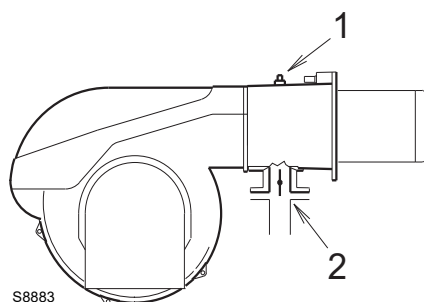

Fig. 26
Gas pressure measured at the test point 1)(Fig. 26), with:
Pressure loss at gas butterfly valve 2)(Fig. 26) with maximum opening: 90°.
- Subtract the combustion chamber pressure from the gas pressure measured at test point 1)(Fig. 26).
To know the required gas pressure at test point 1)(Fig. 26), set the maximum output required from the burner operation, then:
- Read, on the right (column 1) the socket pressure 1)(Fig. 26).
pressure required at test point 1)(Fig. 26).
- Bleed the air from the piping of the gas train, connecting a plastic tube to the pressure test point 1)(Fig. 26) of the minimum gas pressure switch. Take the vent tube outside the building so you can notice the smell of gas.